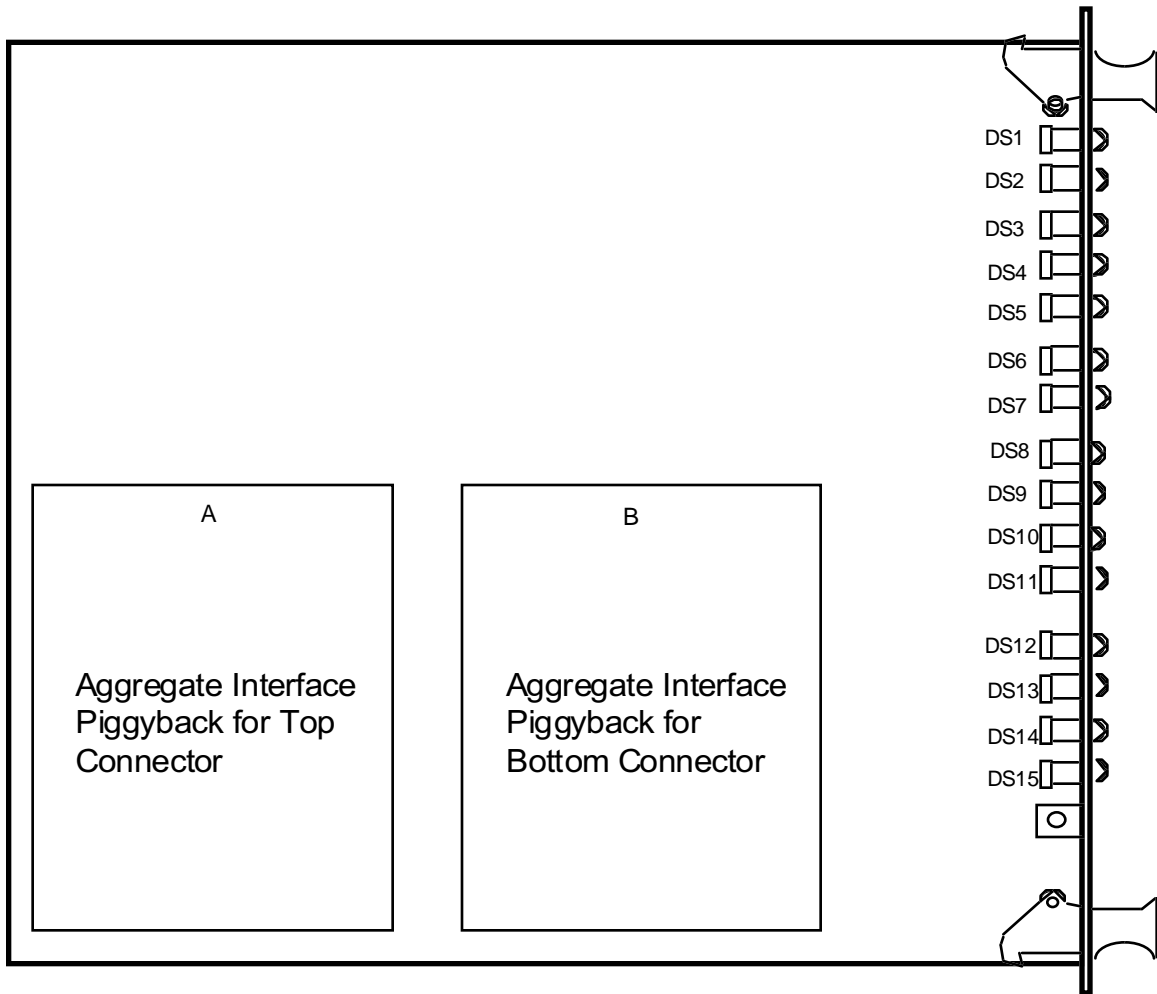

Figure 2-4 Aggregate Interface Piggyback Placement for Diversity
4. For diversity, place the piggyback interface card for the lower connector on the right. Place the piggyback interface card for the upper connector on the left. *See Figure 2-4.*